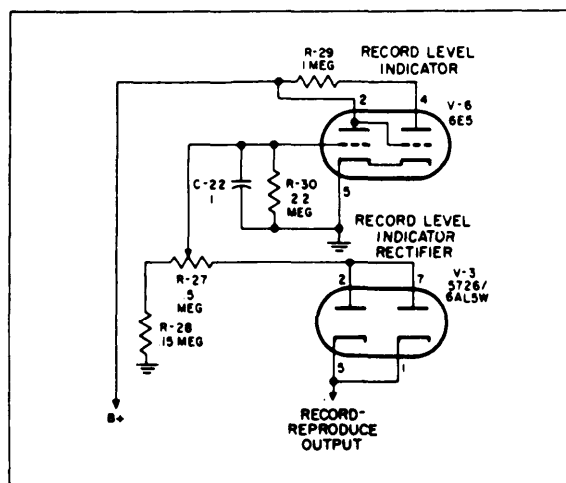

Figure 18. Record Level Indicator - Schematic Diagrams
5.8.2.4 RECORD LEVEL INDICATOR (See figure 18.)